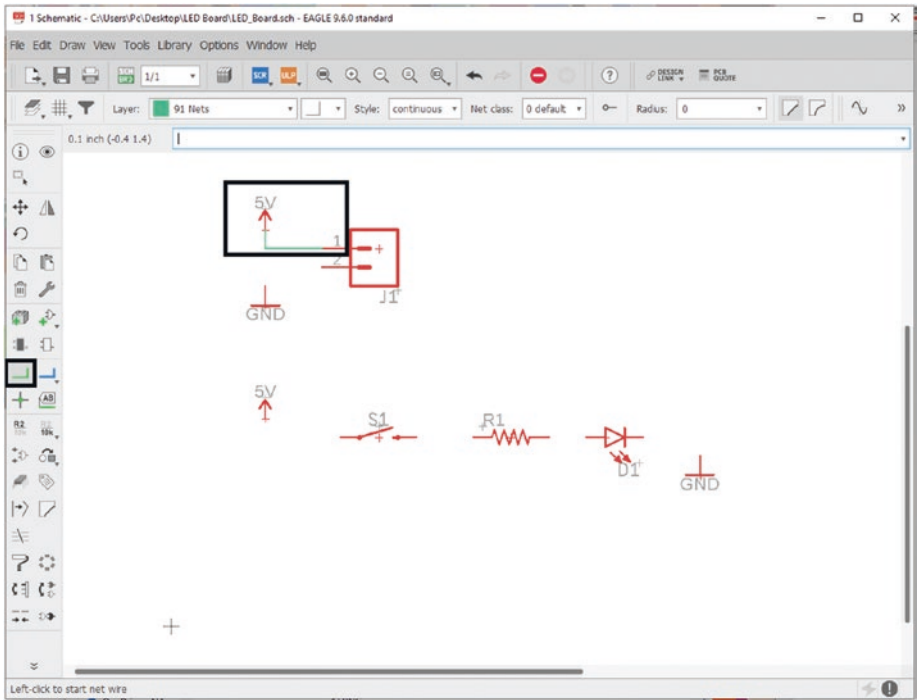

Figure 5-43. Connect the 5V net to the terminal block
30. Connect 5V to the 5mm terminal block. See Figure 5-43.
31. If you want your schematic to look just like Figure 5-43, you can cycle through the different directions of net shapes by right-clicking while the net button is active.